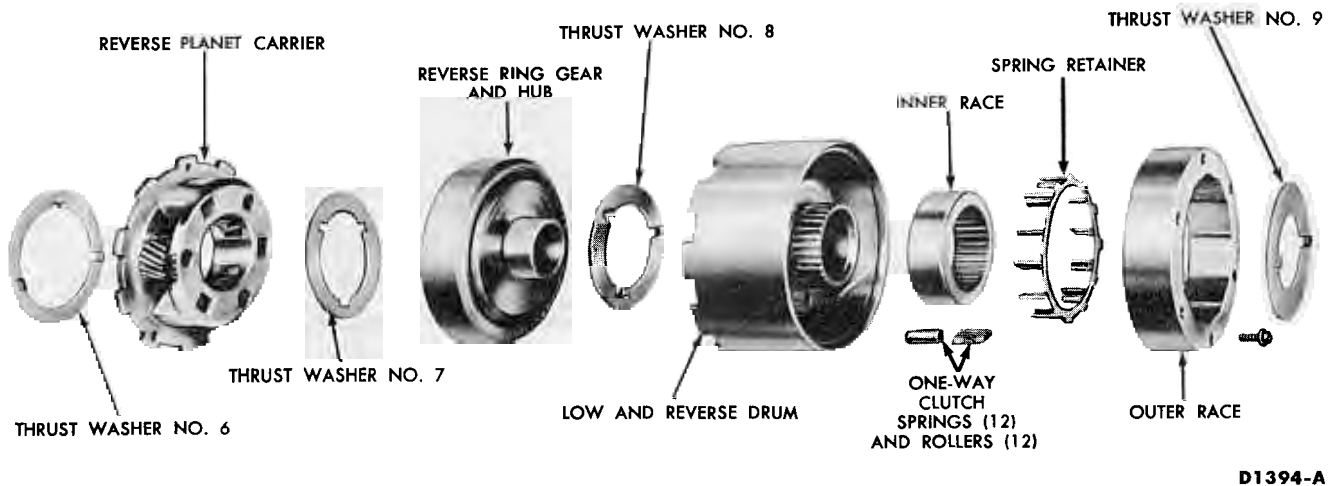

FIG. 42—Forward Part of Gear Train Positioned in Holding Fixture
6. Place the forward part of the gear train in the holding fixture shown in Fig. 42.
9. If thrust washer No. 3 (Fig. 42) did not come out with the forward clutch, remove the thrust washer from the forward clutch hub.